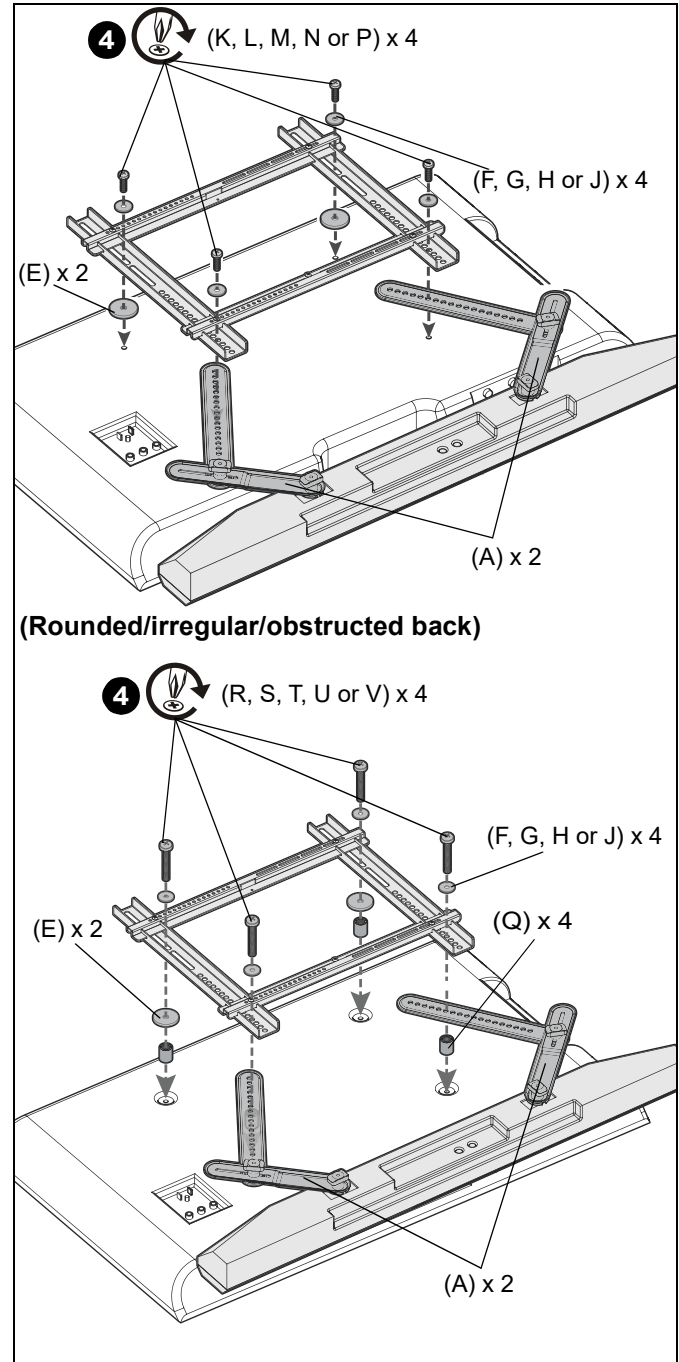

Figure 8
4. Use four selected screws (K, L, M, N, P, R, S, T, U or V), four washers (F, G, H or J), two mount spacers (E) and TV spacers (Q) (if necessary) to secure mounting system and soundbar brackets (A) to back of display. (See Figure 8)
NOTE: Mounting system shown in Figure 8 is an example. Exact mounting configuration will vary based on mounting system.